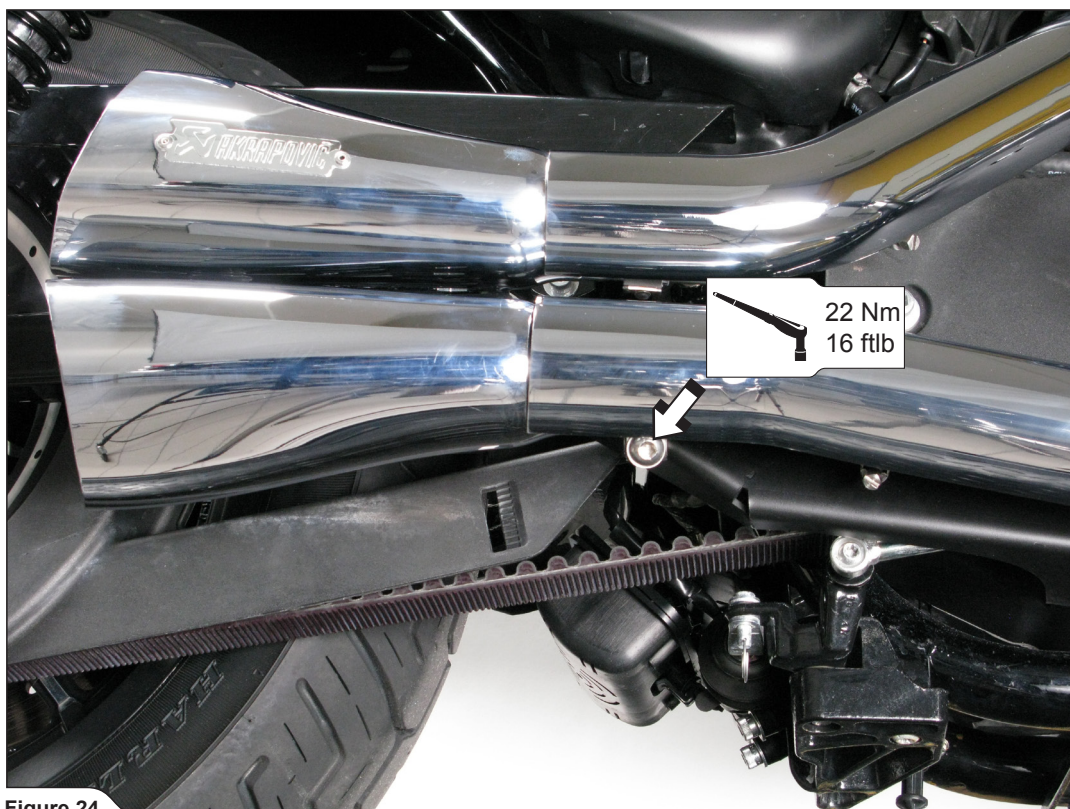

Figure 24
14. Tighten the mufflers' inlet clamps to the specified torque (Figure 24, 25).